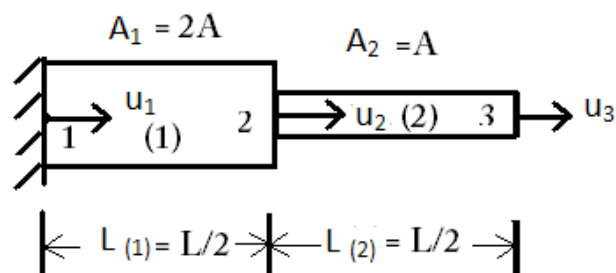

fig.6.
14. (a) Identify the natural frequencies of longitudinal vibration of the constrained stepped bar shown in fig.6 Also find the mode shapes.